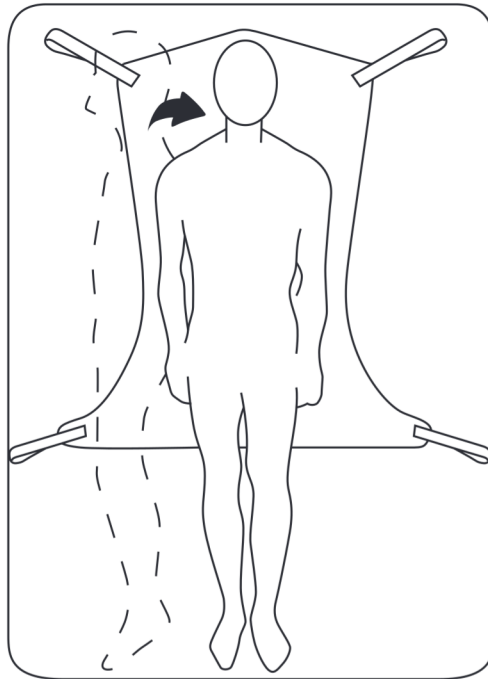

Figure 3
3. Roll the resident onto his/her back (figure 3)